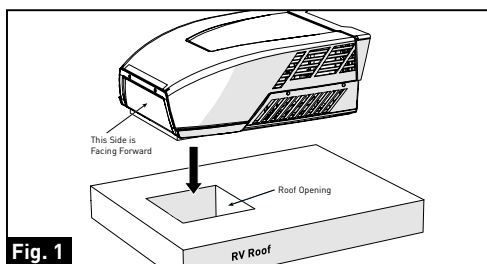

Fig. 1
1. Grasp the bottom of two sides of the unit, lift and position the rooftop unit into the prepared opening using the gasket at the bottom of the rooftop unit as a guide. (Fig. 1)